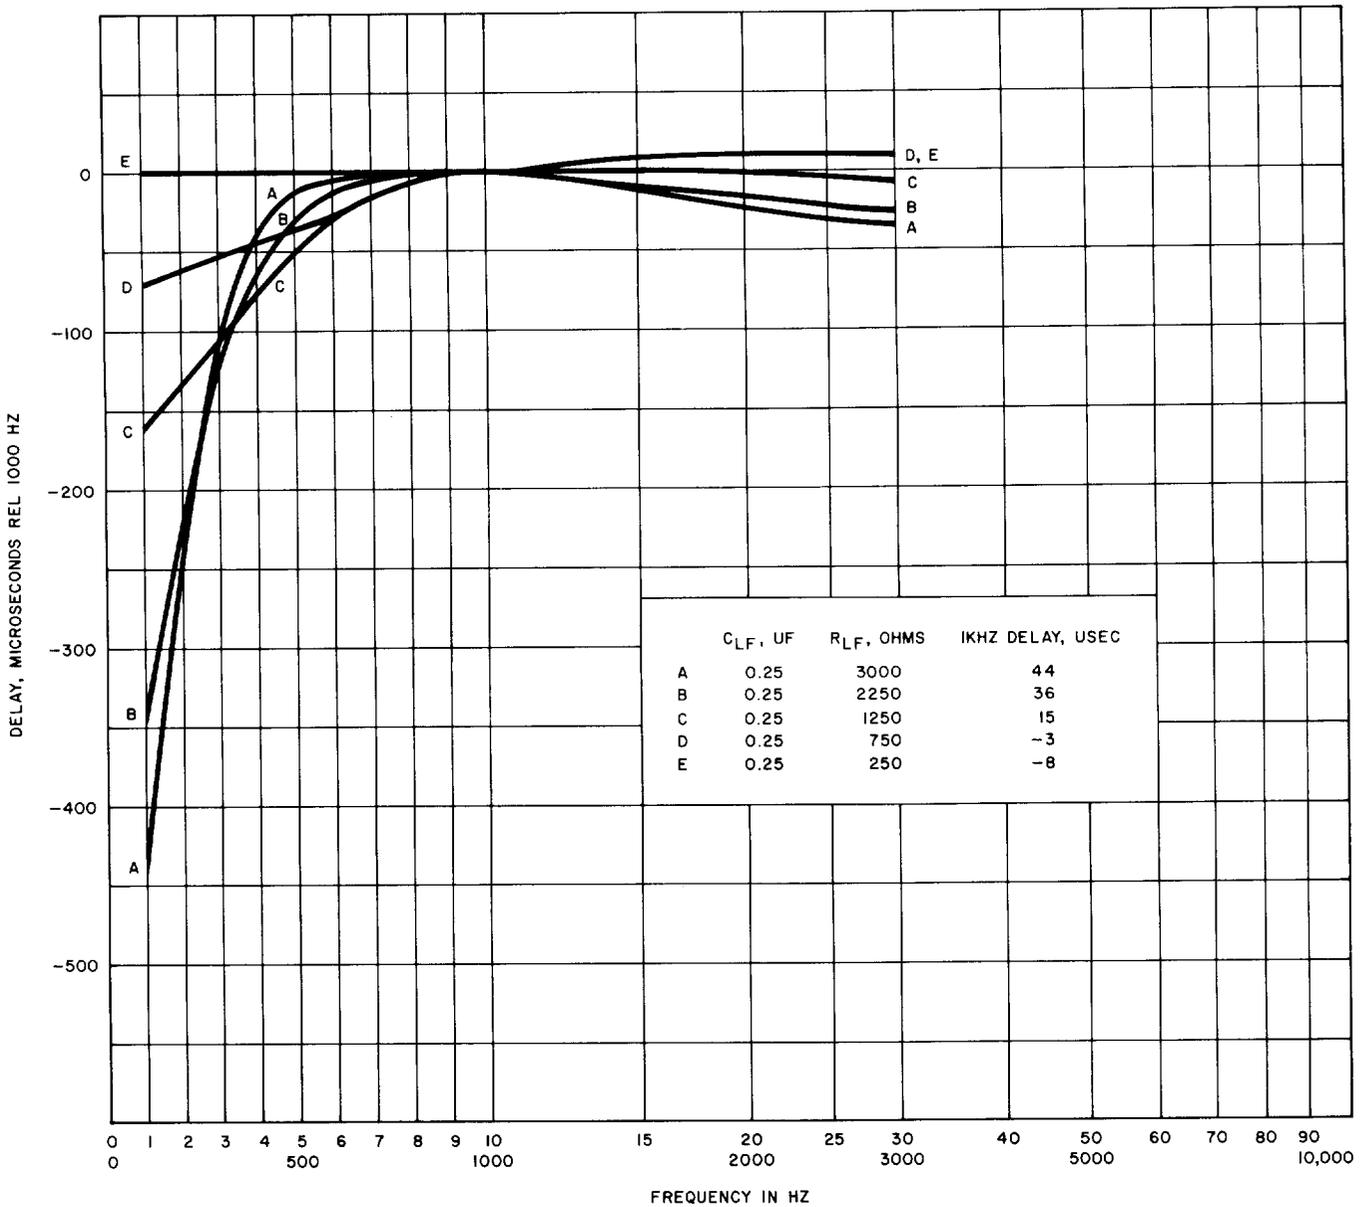
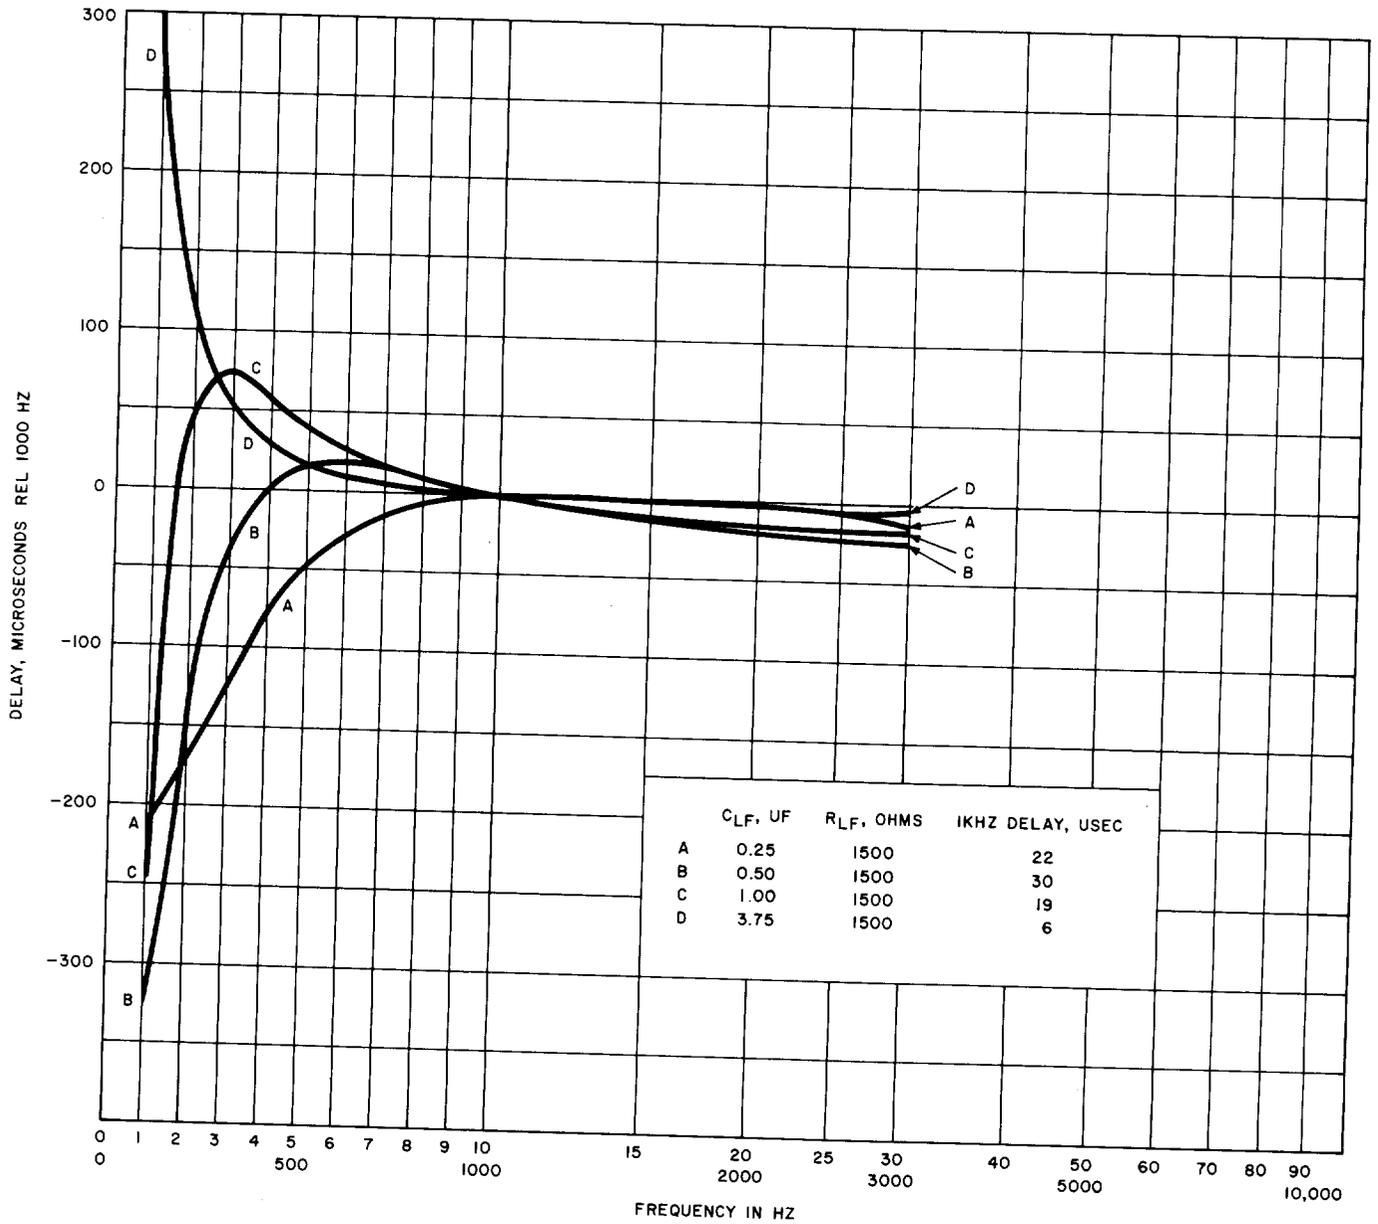

Fig. 7—4182C Network, Low-Frequency Section, Delay-Frequency Characteristics Between 600-Ohm Impedances— Varying R_{LF} For $C_{LF} = 0.25 \mu F$
Fig. 8—4182C Network, Low-Frequency Section, Delay-Frequency Characteristics Between 600-Ohm Impedances—Varying C_{LF} For $R_{LF} = 1500$ Ohms
4.06 While the series arm low-frequency components (R_{LF} and C_{LF}) provide compensation for amplitude distortion, they introduce delay distortion at the same time. Figures 7 and 8 illustrate typical delay-frequency characteristics obtained by various combinations of C_{LF} and R_{LF} . Figure 7 illustrates results of keeping C_{LF} constant at 0.25 μ F and varying R_{LF} with the HF section out of the circuit. Figure 8 shows the results of keeping R_{LF} constant at 1500 ohms and varying C_{LF} with the HF section out of the circuit.